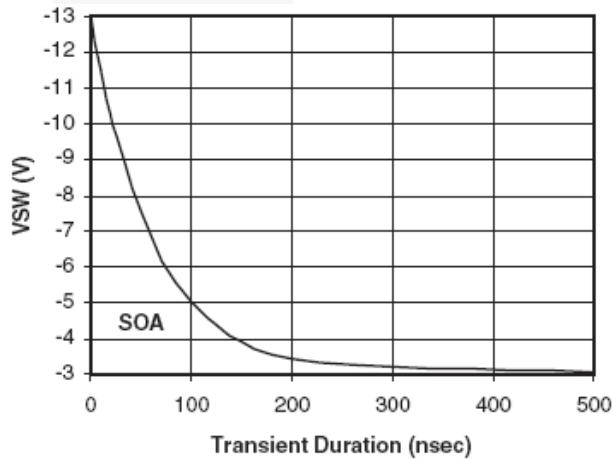
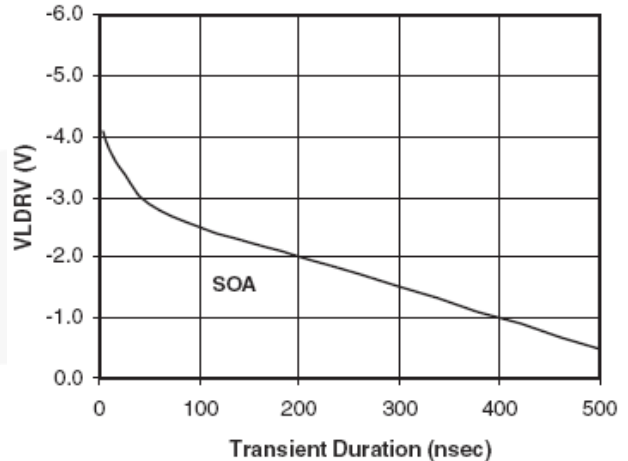

Figure 17. Negative SW Voltage Transient
Figure 18. Negative LDRV Voltage Transient
- For transient derating beyond the levels indicated, refer to Figure 17 and Figure 18.